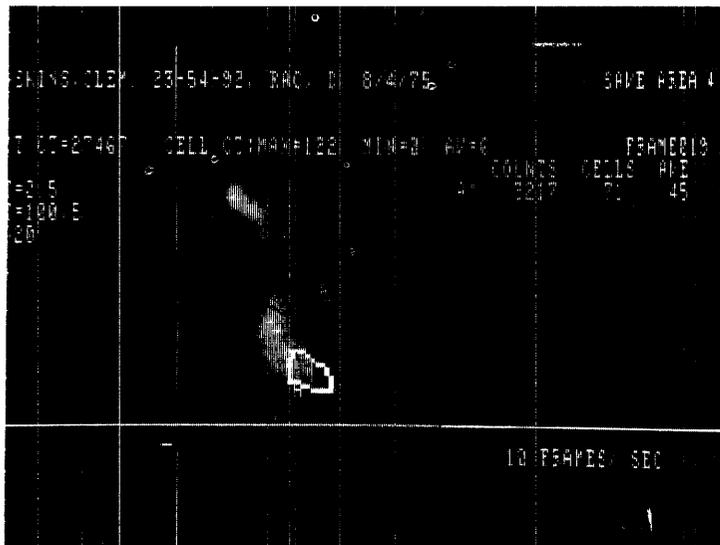

FIGURE 12. ROI over the right ventricle
- 2) display an image of the heart and mark an irregular region of interest (IR) over the right ventricle and an IR over the left ventricle. (Figures 12,13)